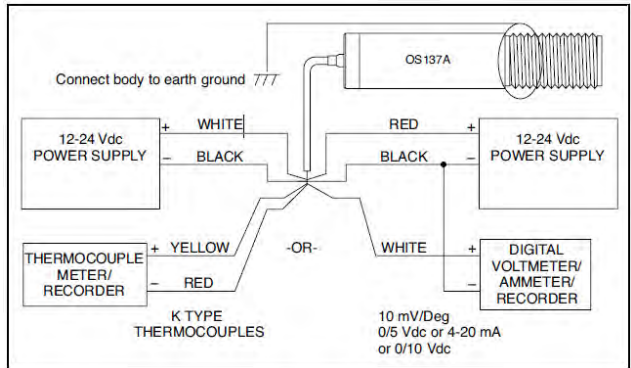
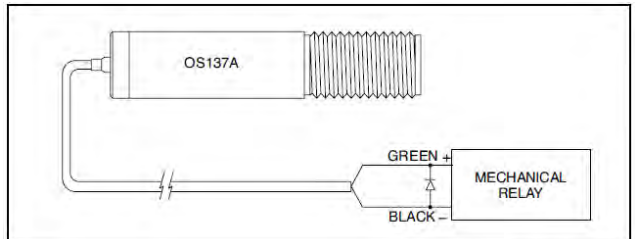

Figure 2-1. General Wiring Diagram
Figure 2-2. Alarm Output Wiring Diagram
The shielded cable provides the power and output connections. Connect the body of the OS137A to Earth Ground. Leave the shield disconnected and insulated at the end of the cable. Fig 2-1 shows the wiring diagram for different analog outputs. Fig. 2-2 shows alarm output connections.
- The power and output connections are made (Fig 2-1).
- Connect the alarm output as shown in Fig. 2-2.